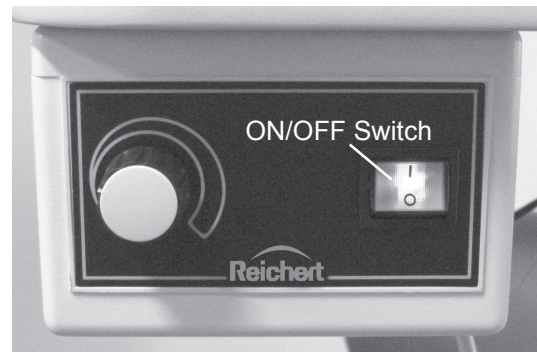

Figure SU-13 Power Supply Assembly
2. Press down on the “I” located on the ON/OFF Switch. Refer to Figure SU-13.